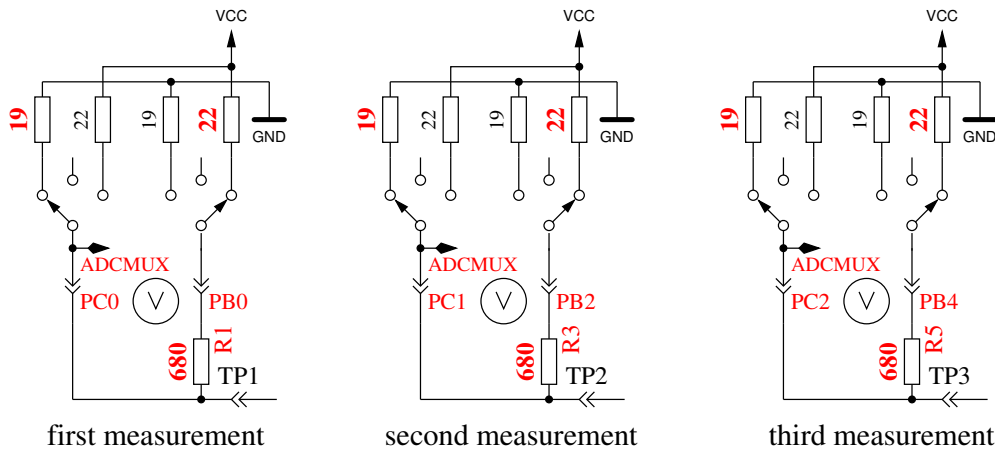

Figure 5.46: Measurement of internal resistance of Port C switched to GND
5. **This step tests the capability of GND (-) connected 470kΩ resistors (H) to pull the test pins to GND.** Row 1 shows the text “RH-”. Row 2 should display zero for all three pins.
6. **This step tests the capability of VCC (+) connected 470kΩ resistors (H) to pull the test pins to VCC (+).** Row 1 shows the text “RH+”. The results are shown als difference to VCC and should be near zero. Great differences from the best value for test 5 and 6 are errors such as isolation problem, flux material or damaged port.
8. **Measuring of internal resistance of pin output switched to the GND signal.** This test and the follwing tests will only be done, if the option AUTO\_CAL is selected. The internal resistance of the port C outputs switched to GND (-) are measured with the current of to VCC (+) switched 680Ω resistors, see Figure 5.46. Only the three pins of the ADC port are measured, the resistor port B (PB0,PB2 and PB4) can not be measured without hardware modification. Is is assumed that the port resistance of the different ports are nearly identical. The resistor value will be shown in the next test.